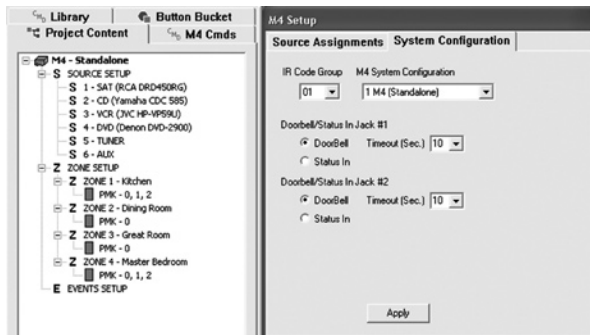

Figure 46 Select M4 Standalone
3. Under **Project Content**, click **M4 or M6 Standalone**, then **System Configuration** in the **Setup** pop up. Refer to **Figure 46**.